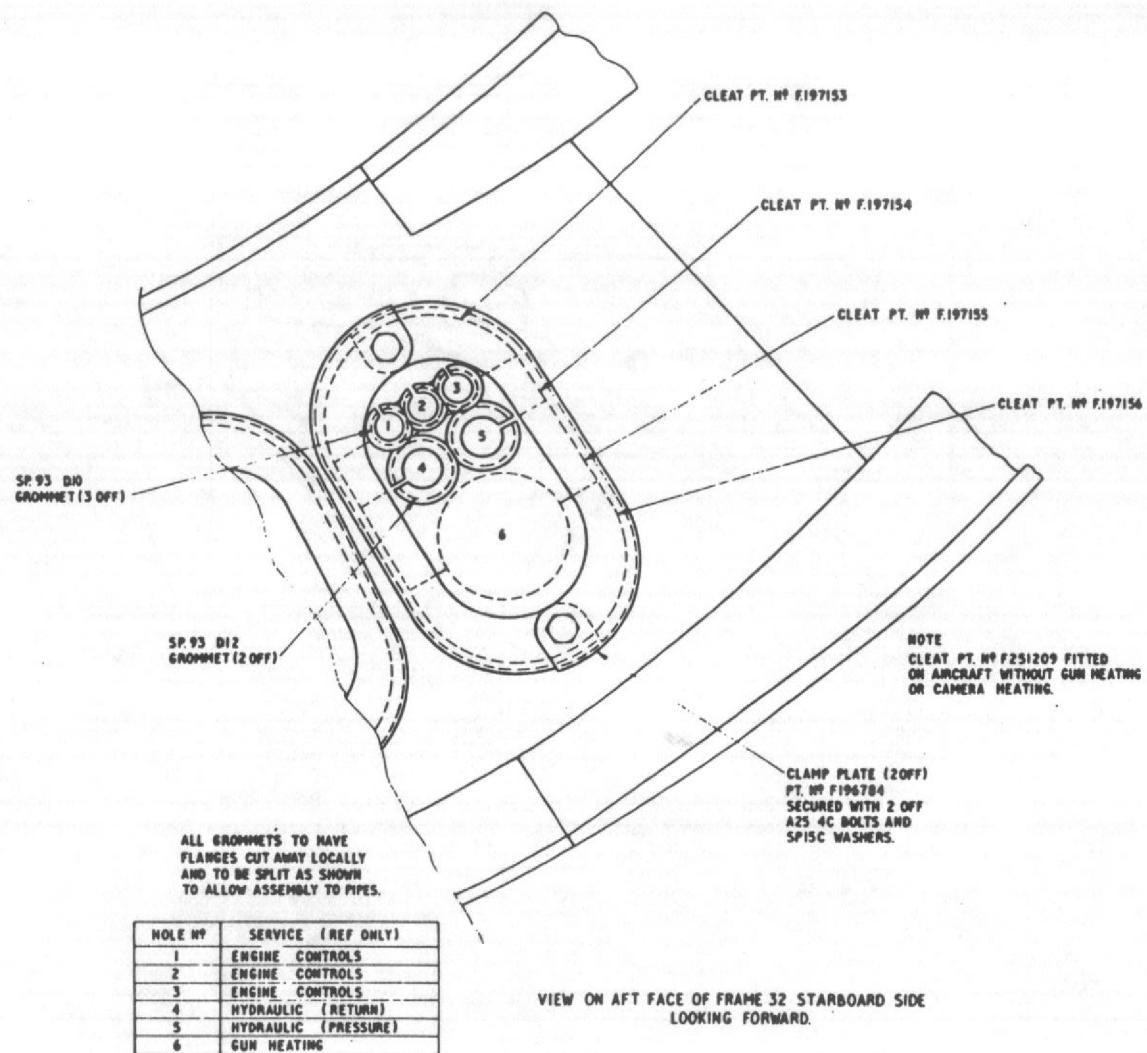

Fig.6A Assembly of clamp plates and cleats frame 32 (STI/Hunter/395)
- (1) If a new engine is being installed as a result of compressor failure, or engine seizure, the pipe lines of the cabin pressurization system and the air pipes of the fuel system, *must* be examined to ensure that they are free from foreign matter.
- (2) Before engine installation, examine the pipes and clamp assembly located at the starboard lower aft face of frame 32 (fig.6A) for signs of pipe chafing, possibly caused by deterioration of the grommets or fracture of the pipe cleats. Renew any unserviceable pipes, cracked cleats or deteriorated grommets. Replacement grommets are to be Part No. SP 93, as specified in fig.6A, prepared by cutting away the flanges locally and splitting (as shown). After reassembling the grommets and cleats, check that adequate clearance exists between the pipes and controls (STI/Hunter/395 refers).
- (3) The accessories gearbox drive shaft universal couplings must be lubricated in accordance with the instructions given in *Accessories gearbox universal drive couplings* in this Chapter before the engine is installed.
- (4) When checking the accessories gearbox drive coupling, hold the spring housing of the engine coupling clear and torque load the drive shaft lock nut as specified in AP 103C-0111-16, Sect 4, Chap 1, para 15. Release the spring housing and ensure that the locking sleeve teeth are in positive engagement with those of the coupling nut.